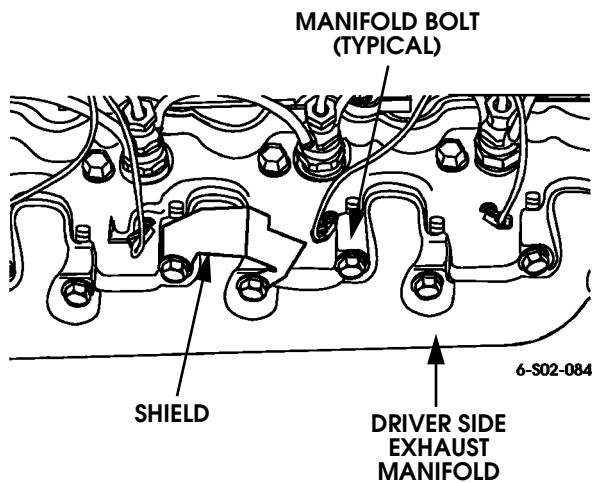

Figure 2-88: Left Side Exhaust Manifold Removal (Turbo Diesel)
3. Remove left side manifold attaching bolts and remove manifold and gasket. Discard gasket (Figure 2-88).